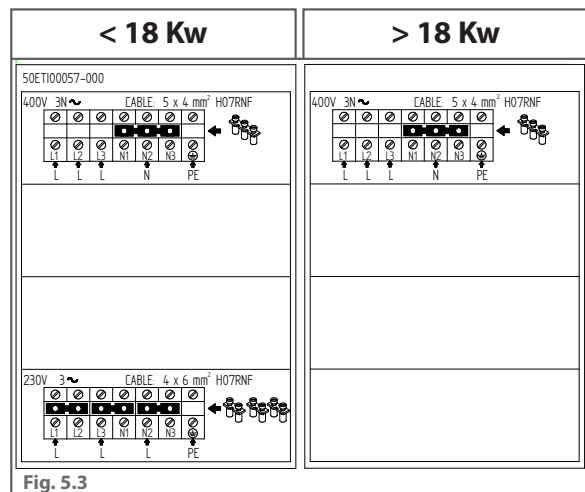

Fig. 5.3
► Fig. 5.3
2 Loosen the cable gland and insert the power cable through it. The label on the side always indicates the type of cable to use and the cross section. This depends on the appliance voltage and power consumption (e.g. cable: 4x6 mm² H07RNF, see ► Fig. 5.3).
The cable must only be replaced with an identical one: the ratings plate always indicates the type of cable to be used and its cross section (e.g. cable: 4x6 mm² H07RNF, see ► Fig. 5.3). The earthing cable must always be yellow and green.